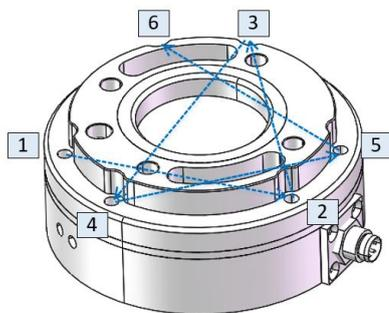

Figure 2-7 Screw Tightening Sequence
- c. Install the mounting flange on the robot: Use $\varnothing 5$ positioning pins to position the mounting flange and the robot, and use four M6 hexagon socket screws to fix them. The positioning pins make it easy to install and connect the device repeatedly, and they will not affect sensor performance if not used. Gradually tighten the screws according to the diagonal sequence shown in Figure 2-7 to deliver uniform contact between the sensor and the robot or adapter tooling.